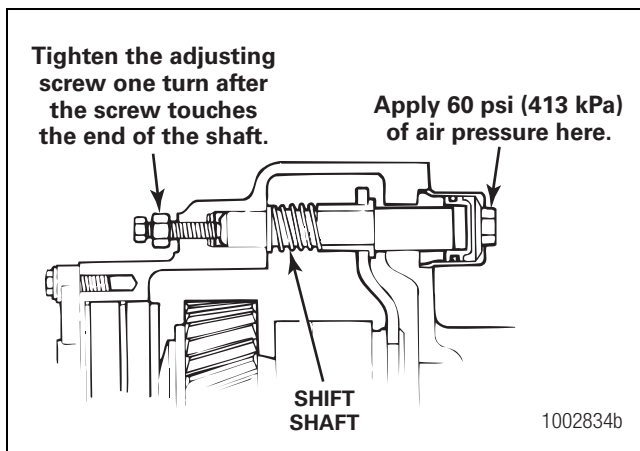

Figure 5.117
- E. When the screw touches the shaft, tighten the adjusting screw an additional one turn. Apply air pressure, then tighten the jam nut. Figure 5.117.